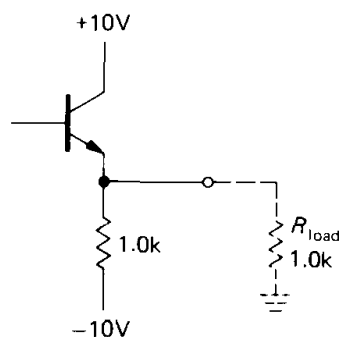
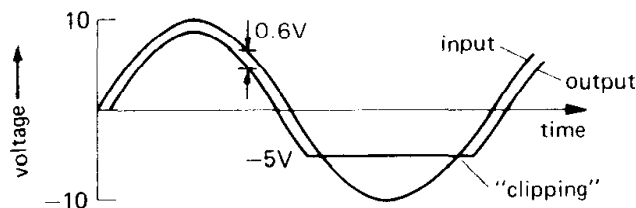

Figure 2.8. An npn emitter follower can source plenty of current through the transistor, but can sink limited current only through its emitter resistor.
Figure 2.9. Illustrating the asymmetrical current drive capability of the npn emitter follower.
1. Notice (Section 2.01, rule 4) that in an emitter follower the npn transistor can only "source" current. For instance, in the loaded circuit shown in Figure 2.8 the output can swing to within a transistor saturation voltage drop of V_{CC} (about +9.9V), but it cannot go more negative than -5 volts. That is because on the extreme negative swing, the transistor can do no more than turn off, which it does at -4.4 volts input (-5V output). Further negative swing at the input results in backbiasing of the base-emitter junction, but no further change in output. The output, for a 10 volt amplitude sine-wave input, looks as shown in Figure 2.9.